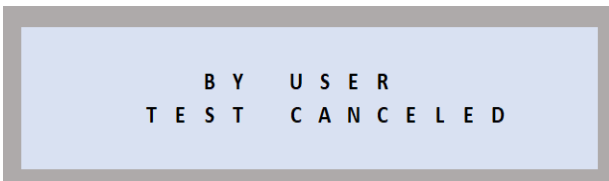

Figure 99
1. Connect the Primary (H) and Secondary (X) cables to the appropriate connectors on the DTR® 8511 and the transformer under test (see Figures 99 & 100).